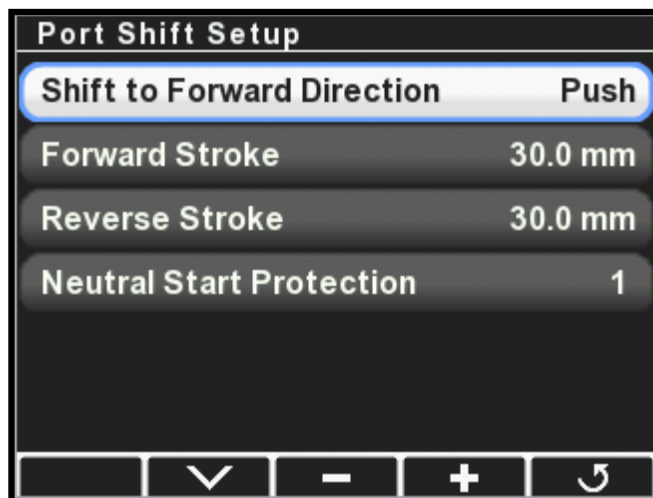

Figure 4-2. Shift setup screen.
- For each shift actuator set the Shift to Forward Direction parameter (figure 4-2) to Push or Pull to match the direction the actuator is required to move to engage *forward* gear. Don't adjust the other parameters yet.